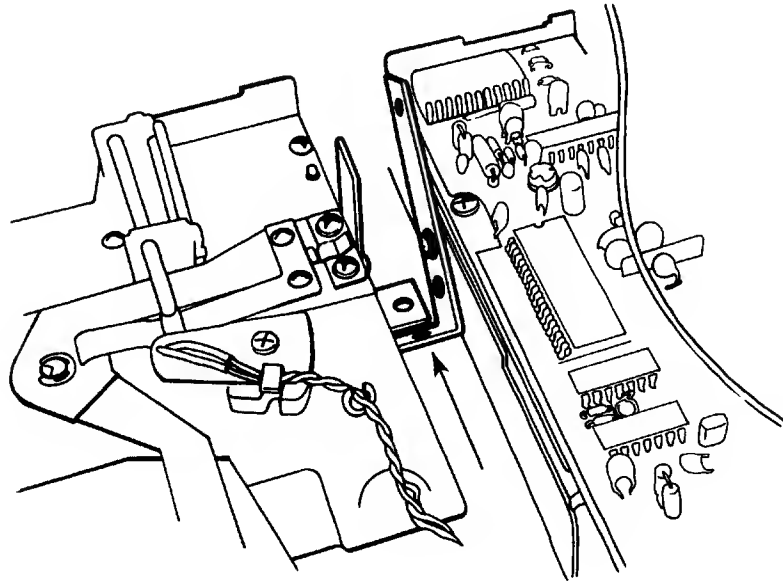

Figure 3-4C: MD II - Revision B and C Chassis - Drive Removal
3. Toggle the "L" bracket connected to the drive as shown in Figure 3-4C.